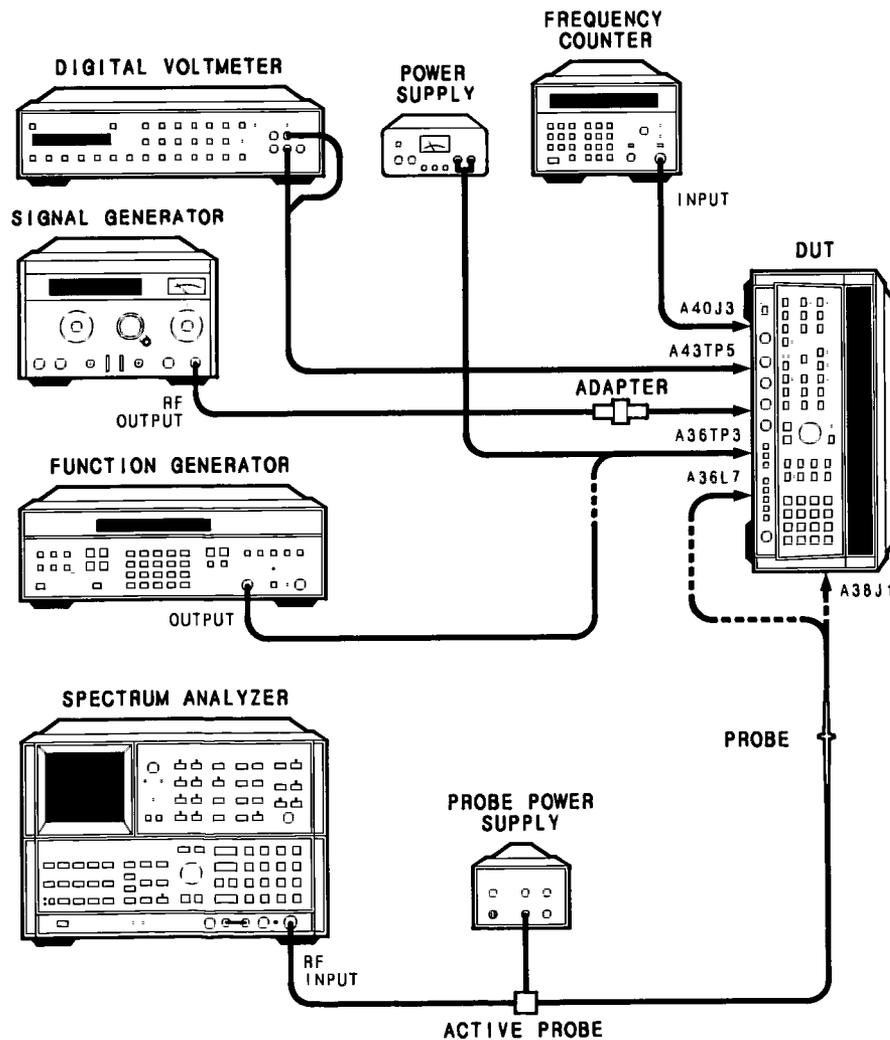

Figure 5-9. 20/30 Loop Phase Lock Adjustments Setup
1. Position the DUT in test position as shown in Figure 5-9 with bottom cover removed and allow one-half hour warm up time. Set LINE switch to STANDBY. Remove A41 PLL2 Phase Detector from its connector on the motherboard. (It is not necessary to completely remove the A41 assembly from the instrument)